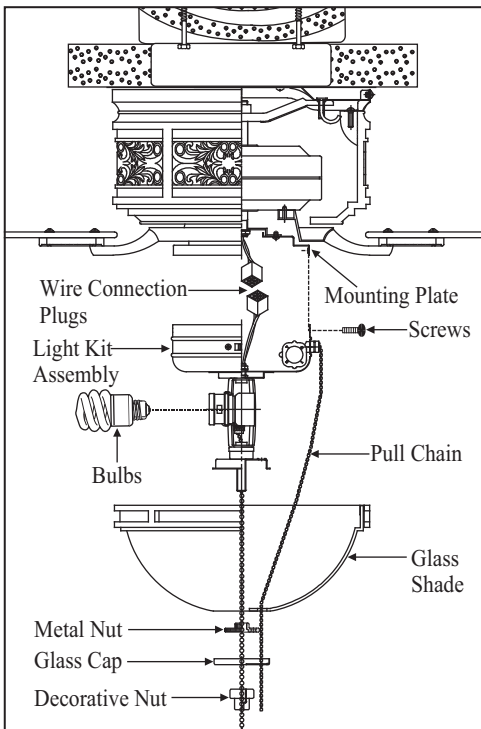

Figure 13
1. While holding the light kit assembly under your fan, snap together the wire connection plugs (Fig. 13).
2. Carefully push all wires back into the switch housing, then install the light kit assembly onto the mounting plate with 3 screws provided. Be sure to tighten all screws. (Fig. 13)
4. Remove the metal nut, glass cap and decorative nut from the light kit. Place glass shade over the light kit stem, secure with the metal nut (rubber side on the top), glass cap and decorative nut. Do not overtighten (Fig. 13).
5. Insert the 2 pull chain through the eyelet in the shade and cap. Secure the glass cap and decorative nut provided (Fig. 13).